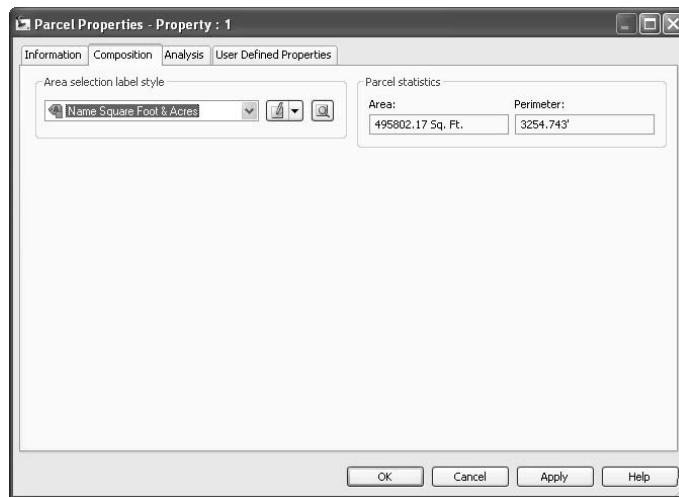

Figure 6.3
6. Open the Composition tab of the Parcel Properties dialog, as shown in Figure 6.3. Note that the area and perimeter of Property: 1 are shown. Use the pull-down list under Area Selection Label Style to change the area label from Parcel Name to Name Square Foot & Acres. Explore the Analysis and User Defined Properties tabs of the Parcel Properties dialog, if desired. Click OK. Note that Property: 1 is now shown with the Name Square Foot & Acres label.